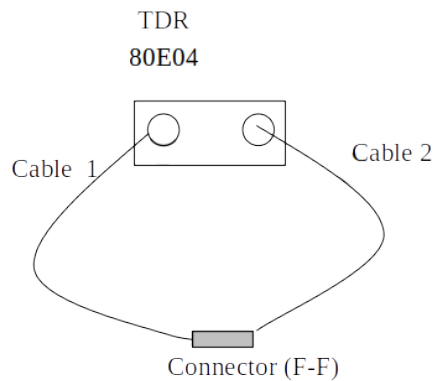

Fig. II-2: Setup for input wave form
- Connect the cable channel 1 and Channel 2 directly as Fig.II-2.